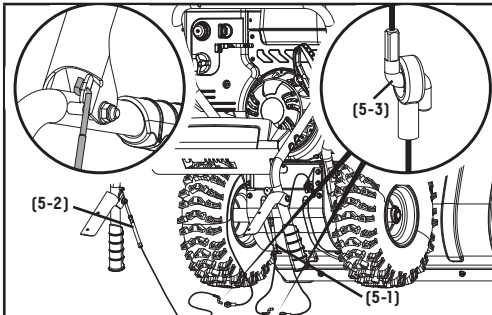

Figure 5
3. Insert wire clamps **(5-3)** together and pull to make sure they are connected. (Fig. 5).